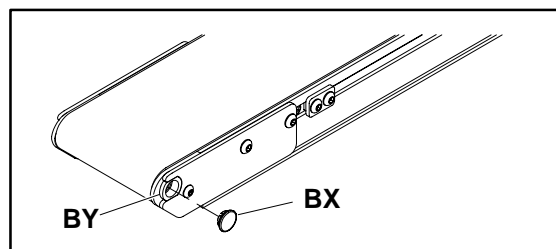

Figure 34
1. With a small flat bladed screwdriver, remove plug (BX of Figure 34) from retainer (BY).